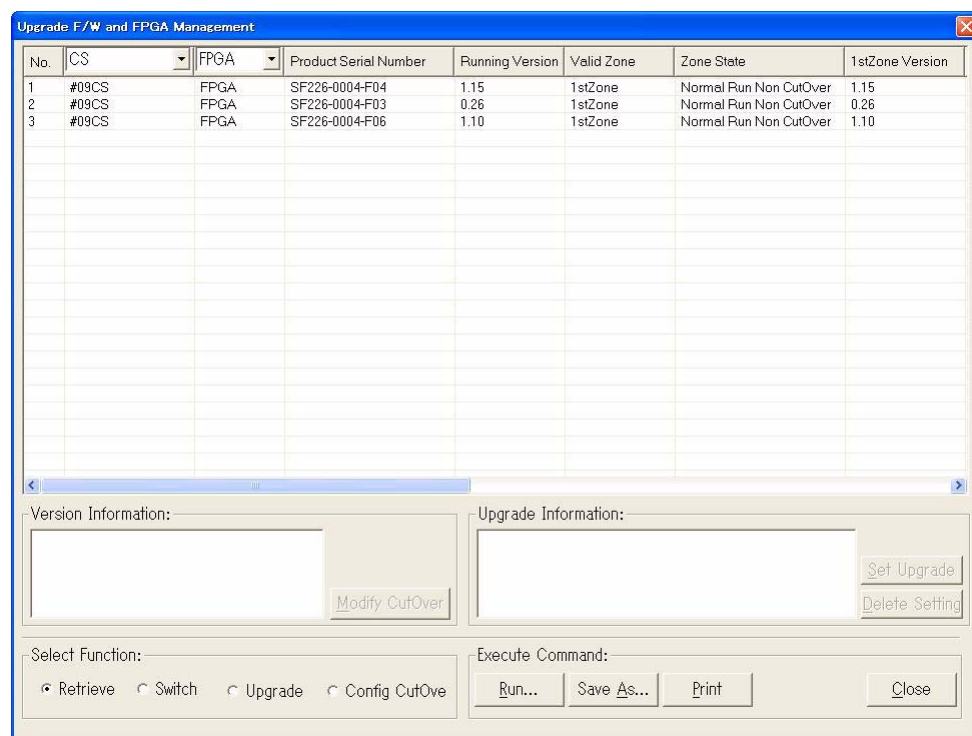

Fig. 4-10-7 Upgrade F/W and FPGA Dialog Box
- 2 Select **Upgrade F/W and FPGA** from the **Maintenance** menu. The **Upgrade F/W and FPGA** dialog box shown in *Fig. 4-10-7* appears: